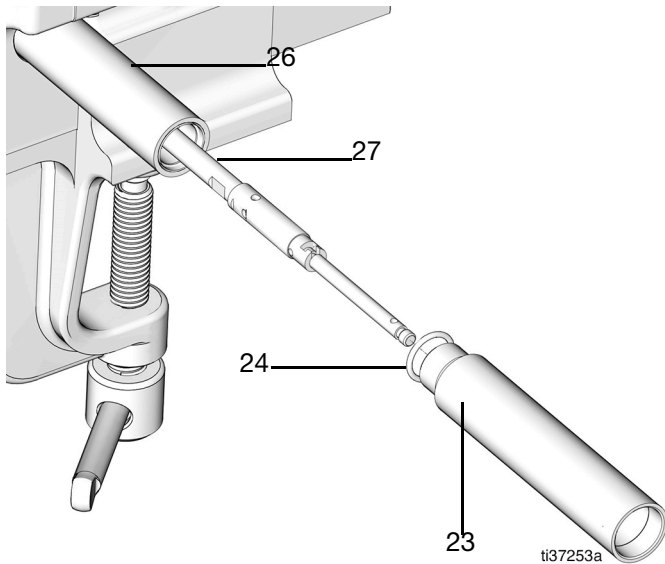

FIG. 61
16. Replace and lightly grease the o-ring (24) on the lower pump tube (23) (FIG. 61).
17. Slide the pump lower tube (23) over the pump rod (27) and connect to the extension tube (26) (torque 32 ft-lb/43.4 N•m) (FIG. 61).